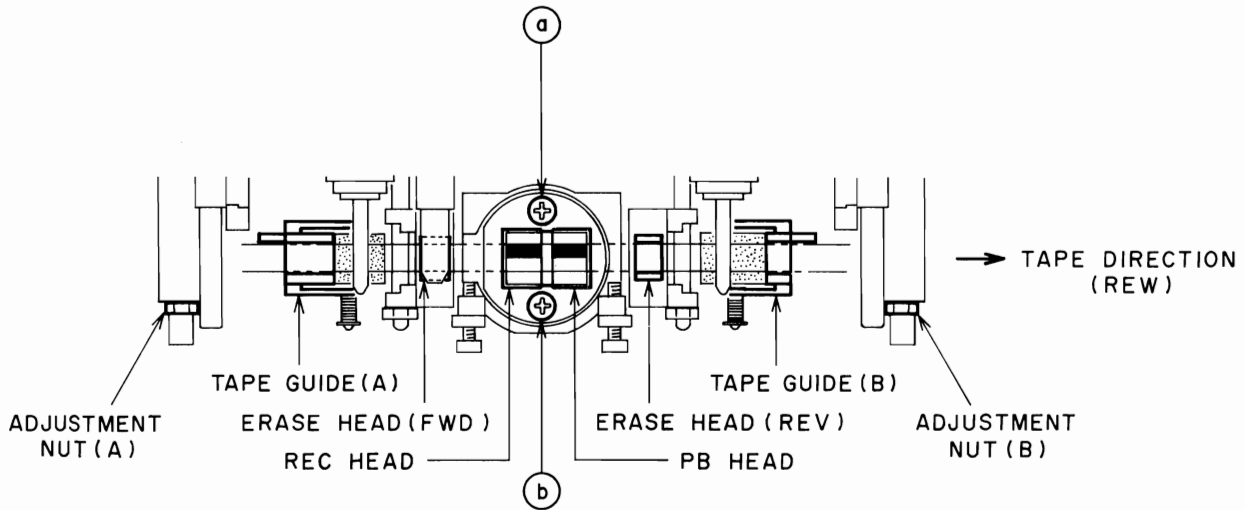

Fig. 6-1
6-1 TAPE GUIDE HEIGHT ADJUSTMENT (Refer to Figs. 6-1 and 6-2)
6-1-2 When only Erase Head was replaced (Refer to Figs. 6-1 and 6-2)
6-3 HEAD HEIGHT ADJUSTMENT (Refer to Figs. 6-1 & 6-2)
- 3) If the difference is more than ± 0.5 dBm in item 2), adjust the erase heads by turning both Erase Head Height Adjustment screws ① & ② in the same direction by $1/4$ turn (± 0.1 mm), so that difference is within ± 0.5 dBm.
- 4) The Head Height Adjustment is necessary if still the difference could not be corrected by above adjustment. It can be done by changing the Head Height Adjustment Spacers ③ & ④ (The thicknesses of these spacers are ③ = 0.45 mm, ④ = 0.35 mm). Loosen the screws ⑤ ⑥ & ⑦ for the spacer replacement. If the level is lower in REV mode, it means that the head is too high, therefore replace the spacers by thinner ones. When the level is higher in REV mode, replace them by thicker ones. After the replacement of those spacers, do the same adjustment in item 1) and check the level of LINE OUT is -5.5 dBm ± 0.5 dBm. For the further confirmation, playback a 4 Track head Height Adjustment Tape (1 kHz/4 Track, AT-750775). Line Output level of both channels should be more than -8 dBm and the difference in level between FWD and REV modes should be within ± 1 dB. Otherwise do the fine adjustment in the same manner as item 3) & 4).
- 5) When the head replacement is necessary, loosen only the screws ① & ② in Fig. 6-1 for easy replacement.